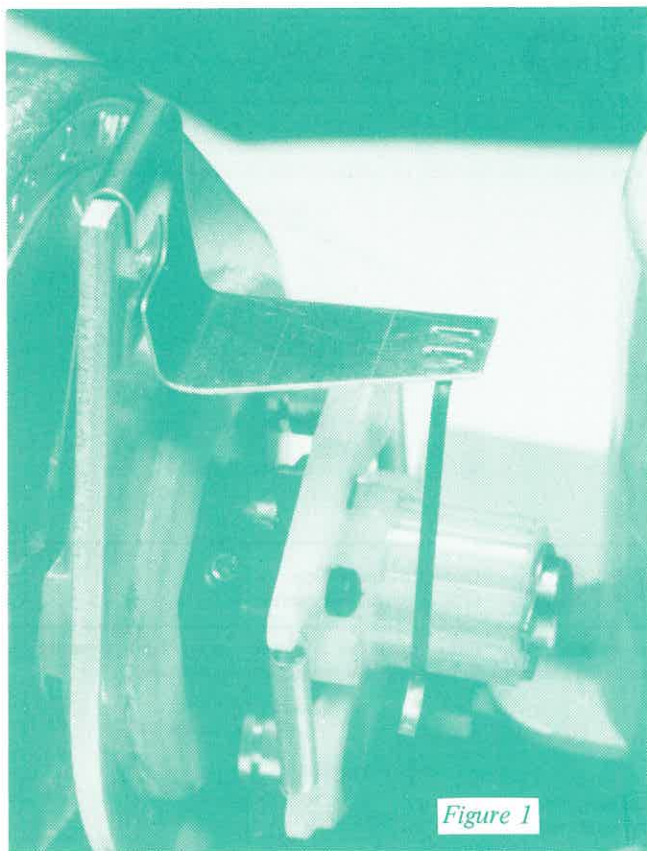

Figure 1
- 3) Install Static Elimination Bracket as shown in figure 1.